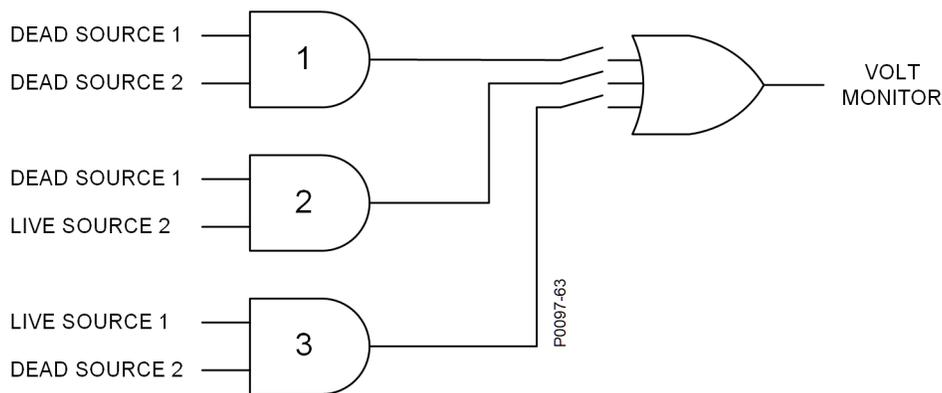

Figure 18-1. Voltage Monitor Logic
The Volt Monitor logic is illustrated in Figure 18-1. Any combination of logic settings can be selected for the Voltage Monitor Logic on the Sync-Check (25) settings screen in *BESTCOMSPlus*. When a logic combination is selected, the sync-check element closes the respective switch in Figure 18-1 associated with each of the outputs.